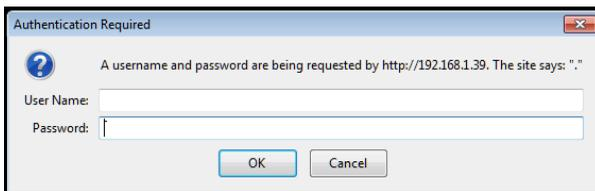

Figure 9: Entering Logon Credentials
**Note:** If authentication is enabled, the following window appears (Figure 9) and you must enter the valid username and password to access the Web pages. For default authentication details, see Section 11.